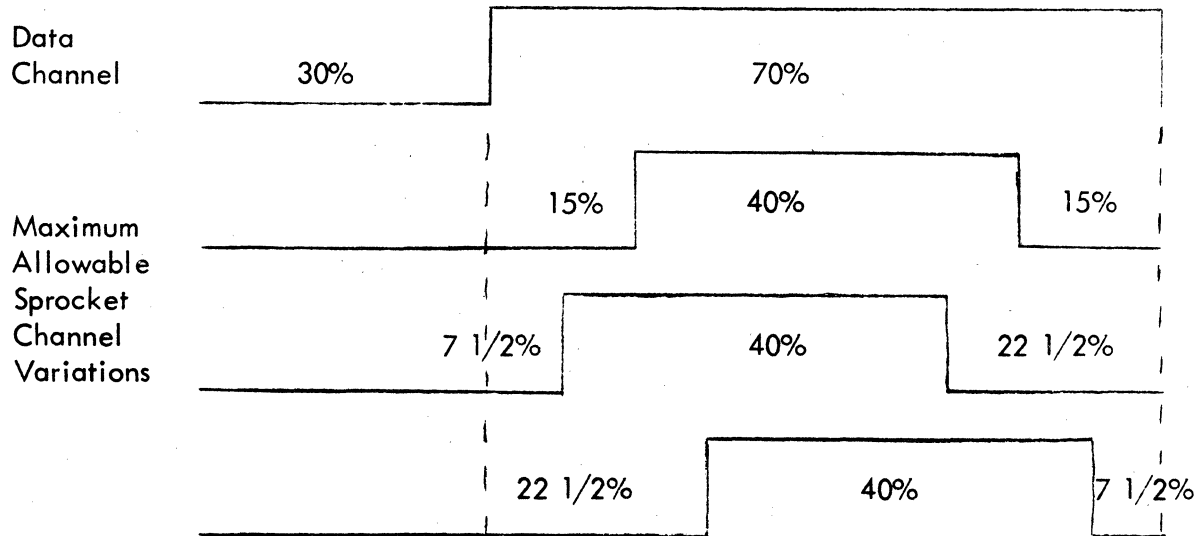

Figure 4-1 Maximum Allowable Sprocket Channel to Data Channel Ratio
- (1) Using the dual trace option of the oscilloscope, synchronize the oscilloscope with any data channel output.
- (2) With the oscilloscope channel A probe, observe the waveshape of the data channel used for synching.
- (3) With the oscilloscope channel B probe, observe the sprocket channel waveshape and compare the physical relationship between the two signals. See Figure 4-1 for idealized waveshape relationships.
- (4) Repeat steps 2 and 3 for all data channels.
Various factors such as badly punched tape, cumulative tolerances or skewing may add together to cause drift in the sprocket to data hole ratio. This drift is acceptable within certain limitations. Figure 4-1 shows the maximum acceptable limits into which the sprocket signal may fall and still perform its gating function. Note that a 40% sprocket signal falls no less than 7 1/2% of either edge of the data signal. This is the maximum allowable limit for the sprocket channel variation. If the sprocket channel cannot be brought within these acceptable limits by readjustment of the sprocket signal and data signals, the Read Head Assembly should be returned to the factory for replacement.